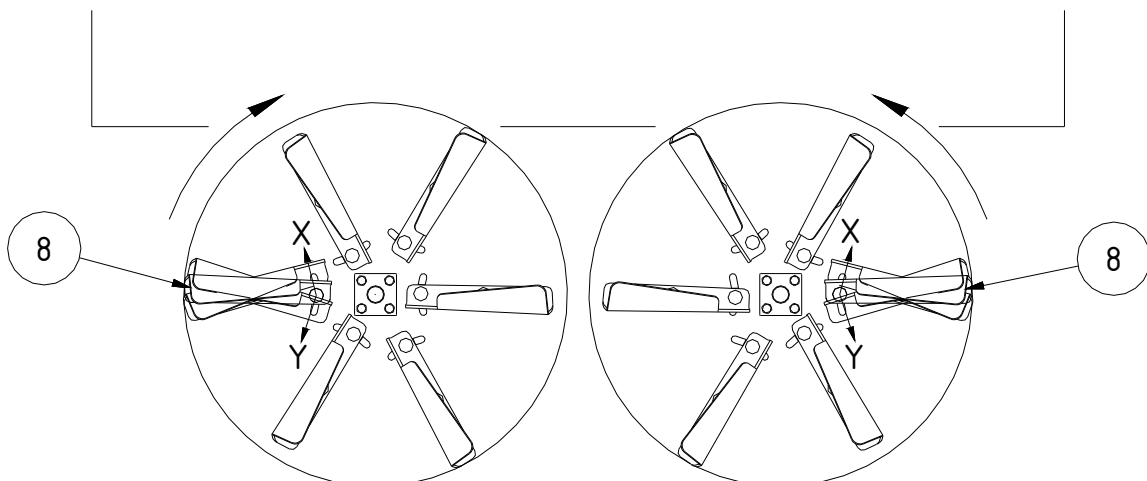

Fig.4: Spreading disc
- Rotation of the mechanical shovels (see disc setting for uneven spreading pattern - Fig. 4)
The mechanical shovels (8) can be adjusted as needed inside the (Fig. 4) slots.